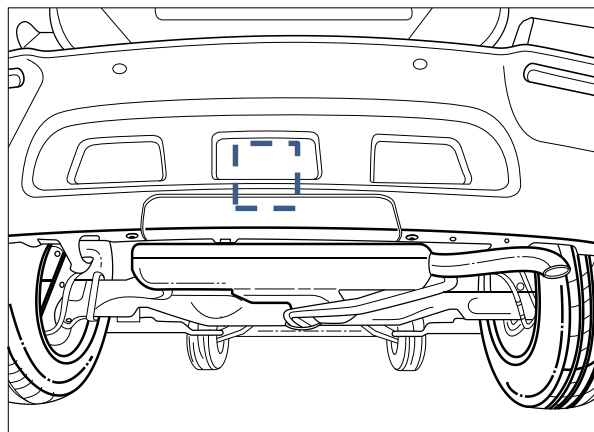

Figure 1
13. From the centre of the Bumper trim, make a Bumper Cut. Start cut from upper lip of indentation and cut 90mm Wide and 120mm down (Refer to Figure 1).